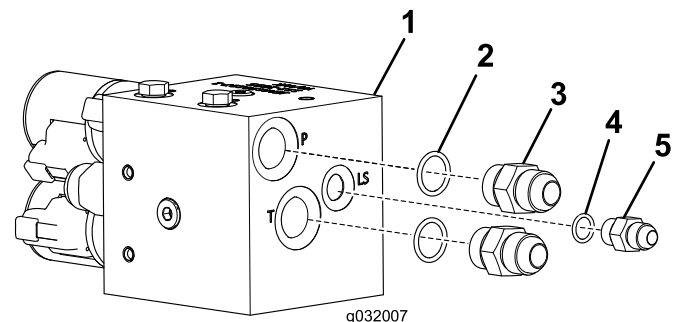

Figure 1
3. Install the small straight fitting and the 2 large straight fittings onto the solenoid valve as shown in Figure 1.